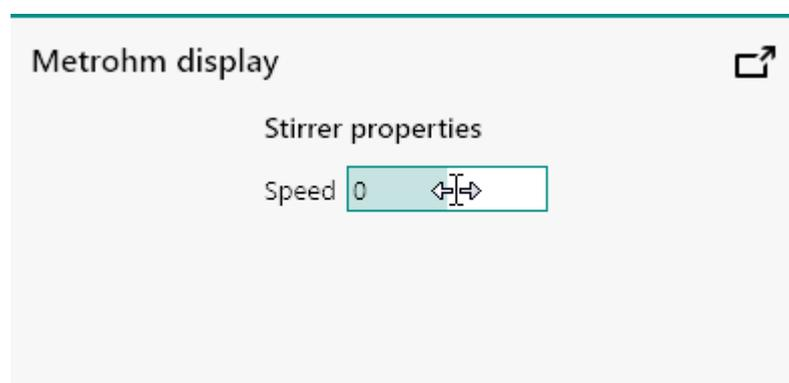

Figure 192 Adjusting the Speed with the slider
- **Slider:** by clicking and dragging the slider control provided in the **Metrohm display** panel (see figure 192, page 167).